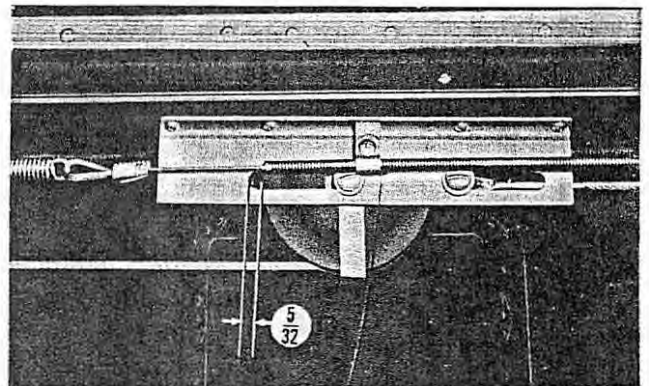

Figure 2-48. Rudder Reduction Pulley Setting
- b. Set the aft end of each reduction pulley 5/32 inch from the end of the slot in the slide (figure 2-48).